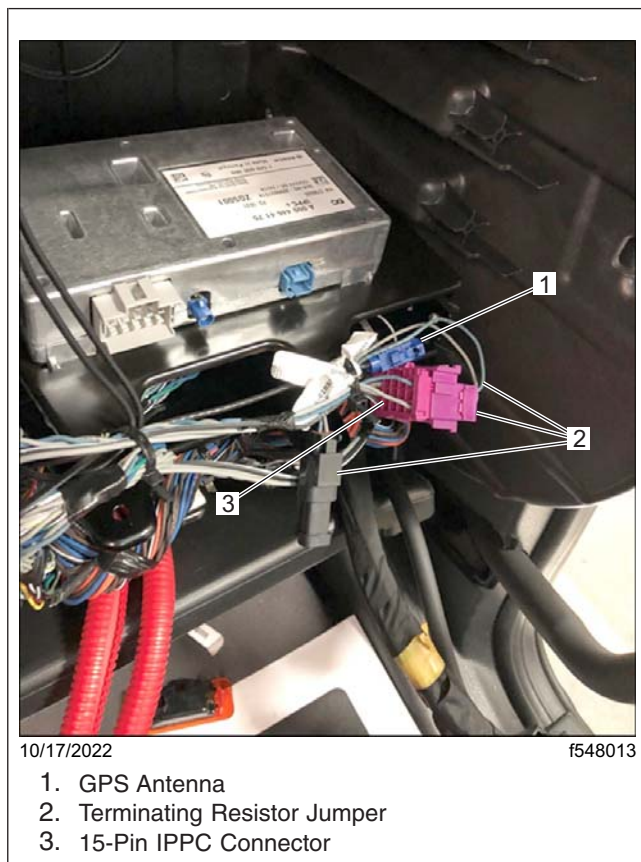
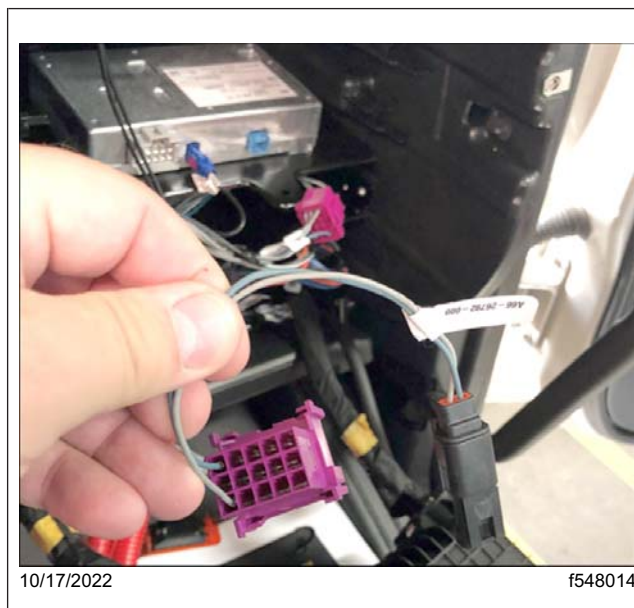

Fig. 3, 15-Pin IPPC Connector Location
Fig. 4, Terminating Resistor Jumper Removal
7. Locate the 15-pin IPPC connector in the electronics bay. Remove the existing terminating resistor jumper (A66-26792-000) from the 15-pin IPPC connector, and discard it. See Fig. 3 and Fig. 4.